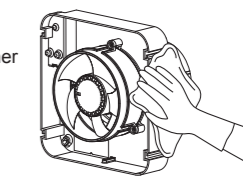

Figure 10
- Use a clean soft cloth and kitchen detergent to wipe dirt off the ventilation fan, and reinstall the cover. (as shown in Figure 10)